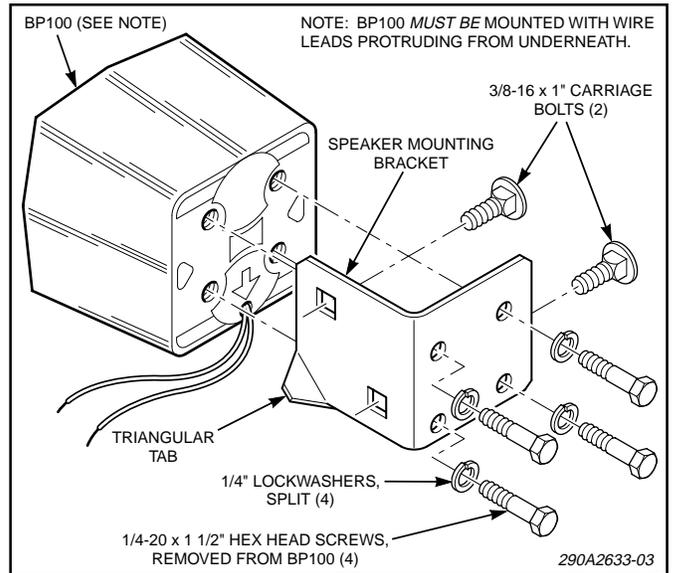

Figure 4.
5. Insert the 3/8-16 carriage bolts into the speaker bracket's square holes as shown in figure 4. To retain the carriage bolts while assembling the bracket to the speaker, assemble the 3/8" nuts on the bolts and finger tighten the nuts.
6. Assemble the speaker mounting bracket to the speaker using the four 1/4" split lockwashers and the previously removed screws as shown in figure 4. Note the orientation of the bracket with respect to the speaker. Remove the finger-tightened 3/8" nuts.